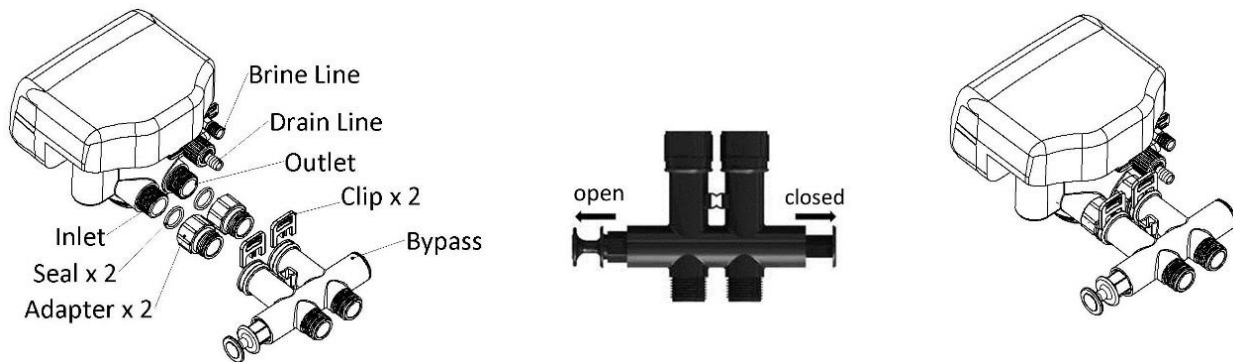

Figure 1-2
- As Figure 1-2 shows; install the seals into the animated connector.